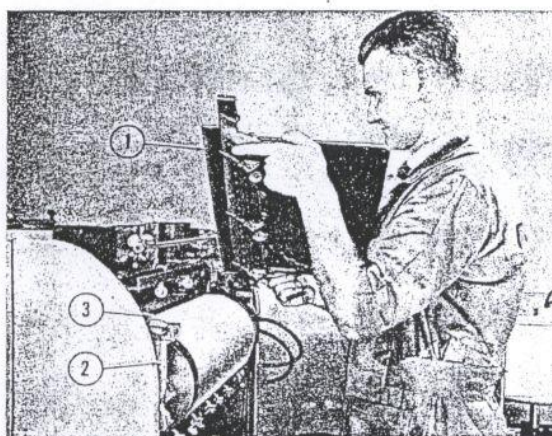

Figure 18—Attaching Transfer Table
(1) HOW TO ATTACH TRANSFER TABLE. (See figure 18.)—The transfer table (1), which receives the sheets from the feeder and transfers them to the impression cylinder, is supported by two levers (2) attached to the cylinder journal cap.
(b) Slip right transfer table clip into right supporting lever, holding table as shown in figure 18. When right end of table is in place, lower the left end into left bracket slot and then slide key (3) into place, locking transfer table in position.